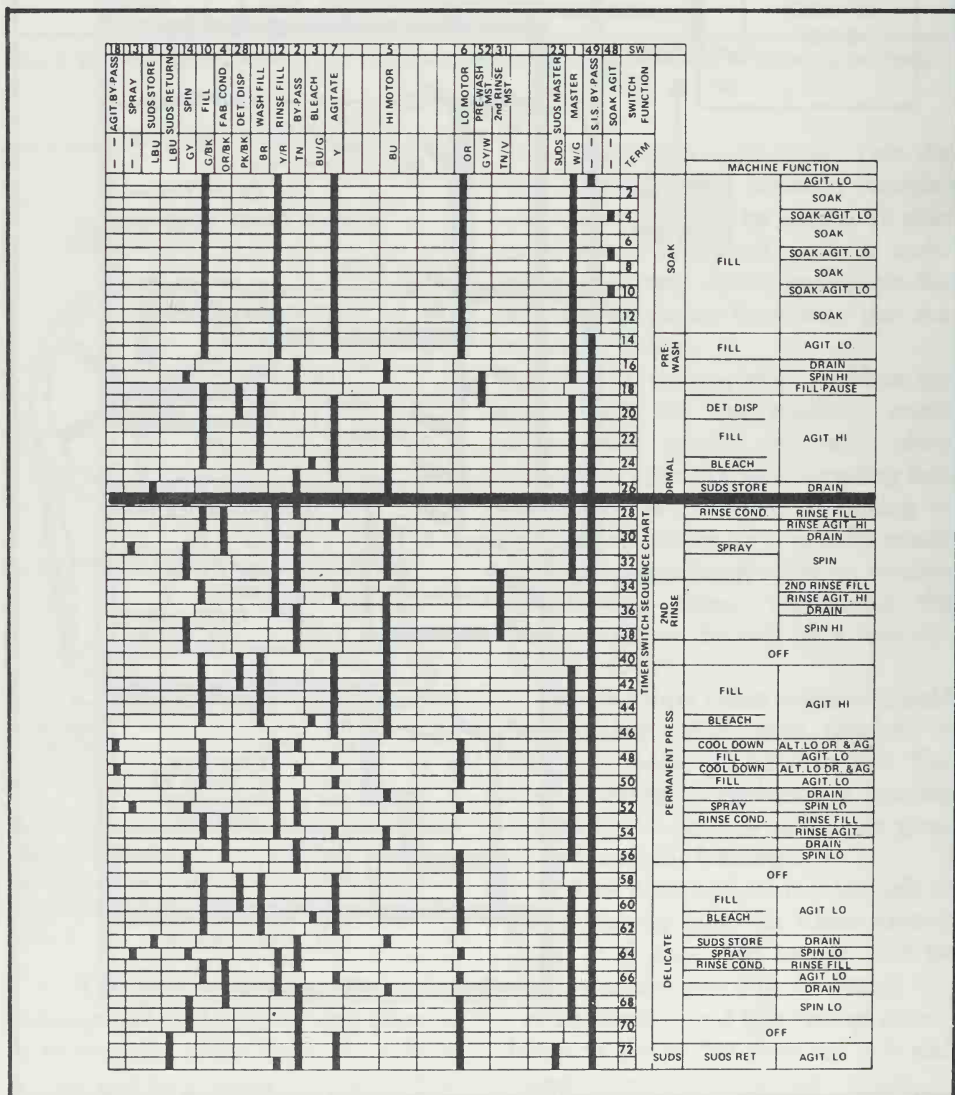

Figure 12. Accompanying the wiring diagram which is glued to the chassis of washing machines is a chart that looks like this. It is a timer cam chart.
2. Count the corresponding number of increments on the timer cam chart which is usually included as part of the wiring diagram (Figure 12). The chart will then tell you the terminals of which switch should have been activated at the particular spot on the dial.